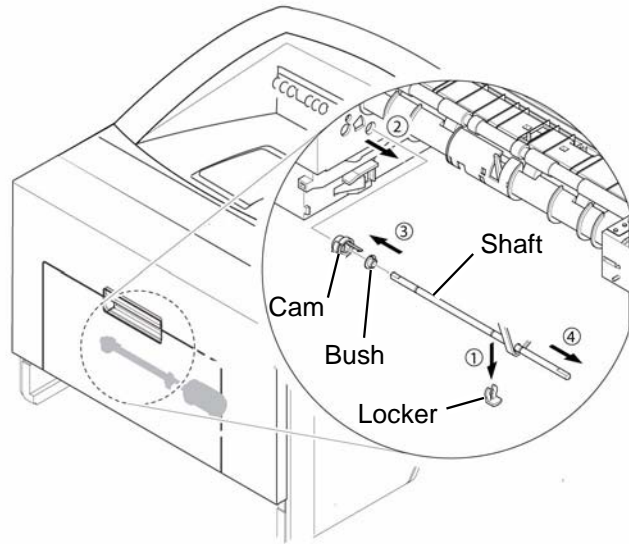

Figure 2
3. To remove the Shaft, first release the locker and slide the Shaft from left to right, then lift the notch attached to the Cam so that it's released from the Shaft. Then release the Bush from the Shaft and remove the Shaft from the Duplex Guide Housing, as shown in Figure 2.